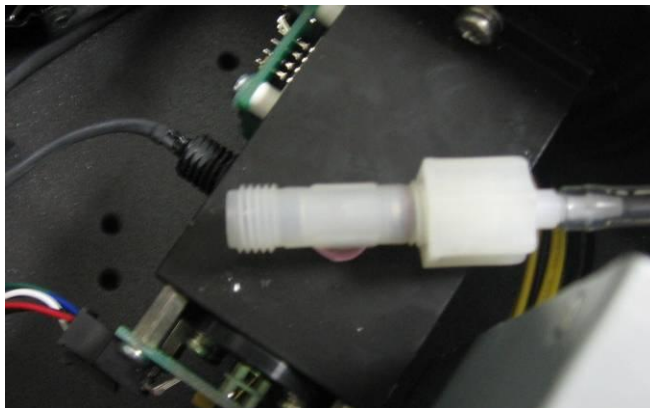

Figure 124 – Reaction Cell T-Piece
3. Disconnect the tubing from the T-piece on top of the reaction cell (refer to Figure 124).